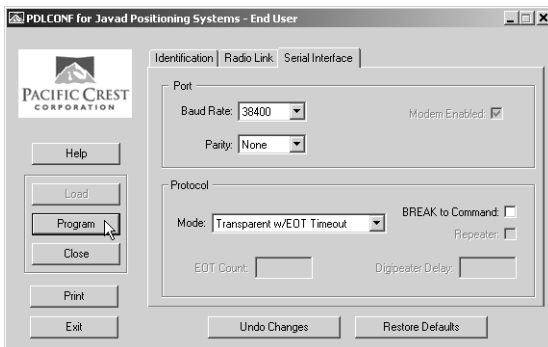

Figure 2-33. PDL – Click Program
12. If you made changes, click the **Program** button on the left of the screen to save them to the modem's memory (Figure 2-33).